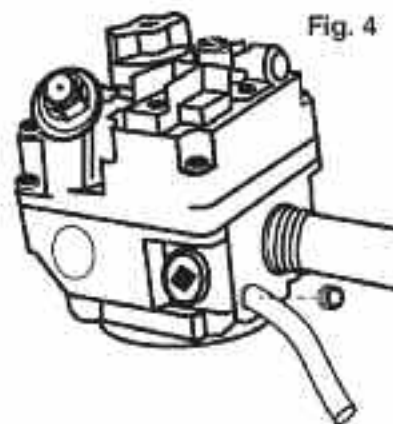

Fig. 4
1. Verify inlet gas pressure (1) does not exceed maximum inlet gas pressure shown on rating label; and (2) exceeds minimum inlet gas pressure shown on rating label.
2. Connect manometer or pressure gauge to gas valve outlet pressure tap, see Fig. 4. Place shut-off valve between gas valve and manometer (gas pressure can be introduced gradually to avoid pressure surge when gas valve opens that could blow liquid out of manometer. See Fig. 4)